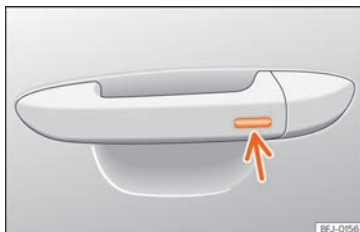

Fig. 95 Door handle: sensor surface.
- Press and hold the locking sensor surface **»» Fig. 95** (arrow) on the door handle to close the sunroof. If you release the sensor surface, the closing movement stops.